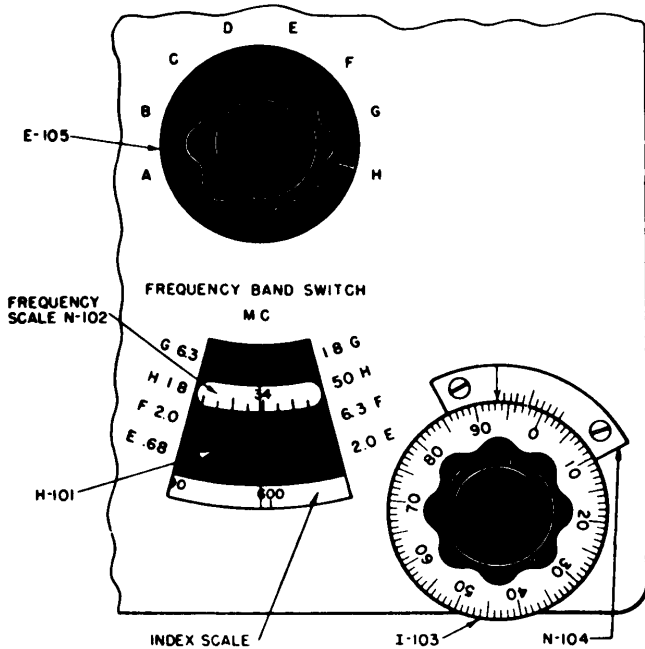

Figure 4-2. Diagram Showing Vernier Reading of Frequency Scale.
(1) Set the signal generator to the approximate desired frequency (see par. 4f).
(2) Set MOD SELECTOR dial I-107 to EXT (XTAL).
(3) Connect a pair of high impedance earphones to EXT MOD IN jack J-103, using 7" cable W-105 and Connector, Adapter UG-684/U.
(4) Throw XTAL-CAL switch S-106 to ON position. A number of zero beats will be heard in the vicinity of the frequency selected.
(5) Select the nearest half megacycle beats (1 mc on band H) on either side of the desired signal and record the vernier dial (I-103) readings at these points. Always approach the frequency setting by rotating TUNING dial I-103 in a counter-clockwise direction.
(6) Set I-103 to the accurate frequency ($\pm 0.05\%$) by interpolating between the two calibration points (See example).
c. EXAMPLE OF FREQUENCY INTERPOLATION (See figure 4-2).
(1) Assume that it is necessary to obtain a signal at 34.3 mc $\pm 0.05\%$.
(2) Select the zero beat closest to 34 mc. This might indicate a reading slightly less than "600" on the index scale. From figure 4-2, we see that the arrow on N-104 points to somewhere between "93" and "94". We also see from this figure that the third line on N-104 lines up with a marker on I-103. The numerical setting at this crystal check point is therefore "593.3".
(3) Rotate TUNING dial I-103 counterclockwise, passing the 34 mc marking, until the next zero beat is heard. This will appear 1 mc away from the first check point. Let us assume that this will occur at a vernier reading of 614.5. This represents a vernier difference of 21.2 for a 1 mc spread. A setting of 34.3 therefore represents an advance of $.3 \times 21.2$ or 6.36 from the "593.3" setting.
(4) Set the vernier reading to $599.7 = (593.3 + 6.36)$. This represents a frequency of 34.3 mc $\pm 0.05\%$.
(b) Select meter correction factor for 45 mc from Figure 4-2 (i.e. .92).